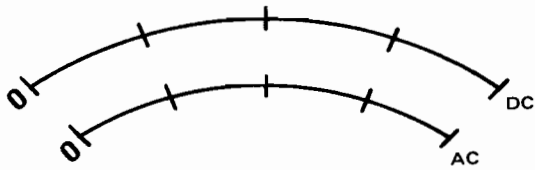

Fig. 8-4-2
7. Complete ac scale of Fig. 8-4-2 so that it corresponds to scale of your VOM. It is not necessary to indicate all meter graduations. Only major voltage values are needed to indicate voltages of step 6.